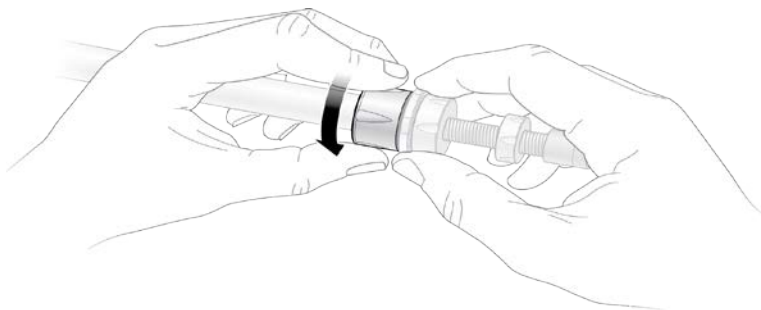

Fig. 7. Reattach and hand-tighten the retainer.
12. Screw on the upper retainer (Figure 7).